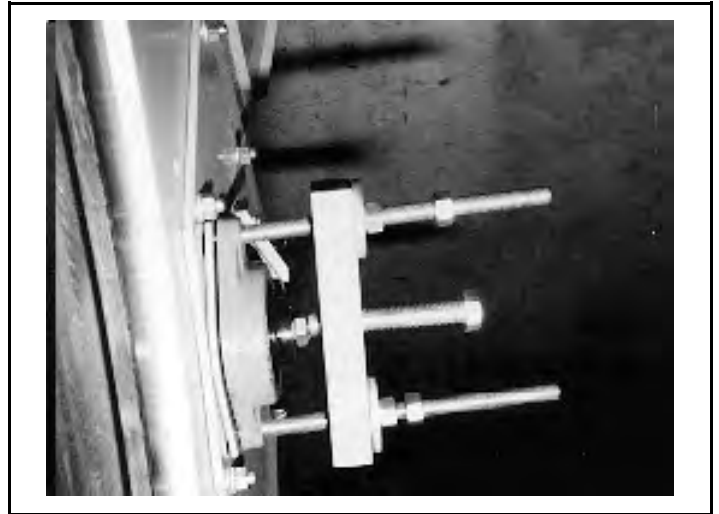

FIGURE 3 (MSSM0115AE)
5. Thread the pulling fixture screws into the rear bearing mounting tap plate. Tighten the pulling fixture bolt against the shaft end bolt as shown in FIGURE 3, and push the shaft through the bearing.